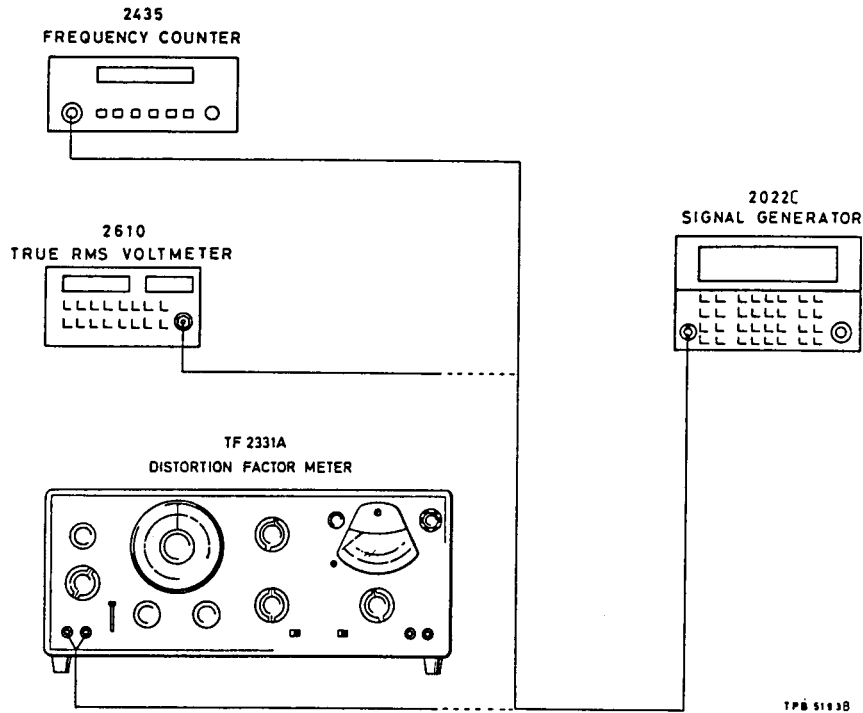

Fig. 5-4 Test gear arrangement to check Mod. osc. performance
(1) Connect test equipment as shown in Fig. 5-4 and set the 2022C controls as follows:-